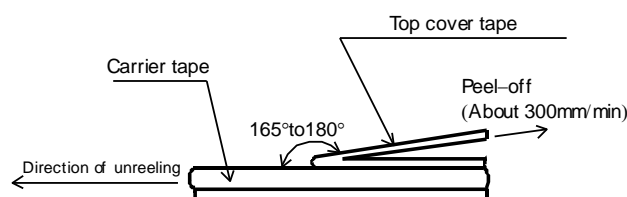
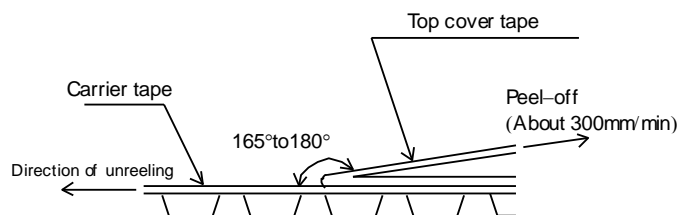

Figure-6
Figure-7
- 5). The peel strength of the top cover tape shall be within 0.1N to 0.5N on the test method as shown in the following RPCH10,16,20,32:Figure-6,RPCH35:Figure-7.